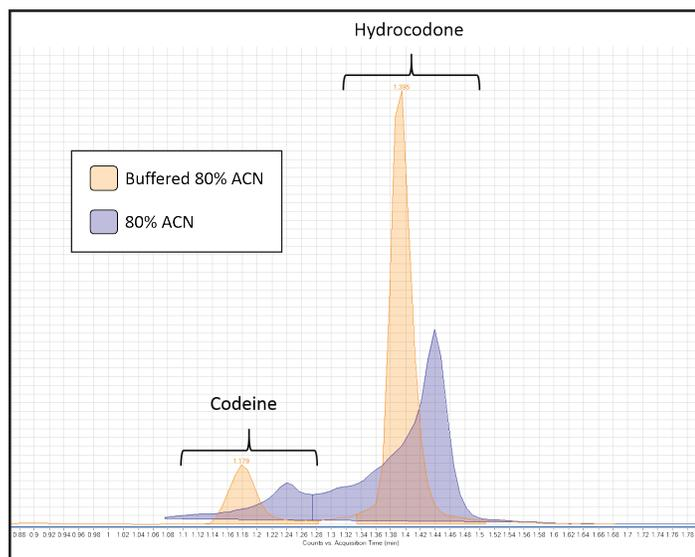

Figure 4: This chromatogram illustrates two ITSP SPE elutions, one using a buffer and the second without.
- 3) Using ordinary LC/MS/MSs: 5µl loop using >3x overflow. If peak shape and/or retention are insufficient for early eluting peaks, check buffering in SPE eluent (see Figure 4 below).
- 6) Chemical presentation of the sample from ITSP SPE to the LC is important. In LC analysis, control of the pH (ionization state) controls peak shape (see Figure 4). Elution in 80% ACN limits LC injection volume to ~2µL (2.1 x 50mm column). Elution in 100% MeOH (buffered) allows 5µL LC injection. Viscosity has an equally important role in LC injection along with pH.